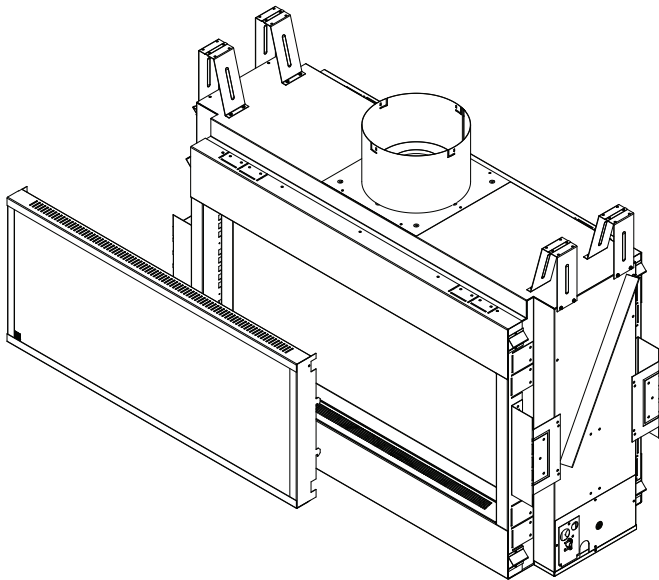
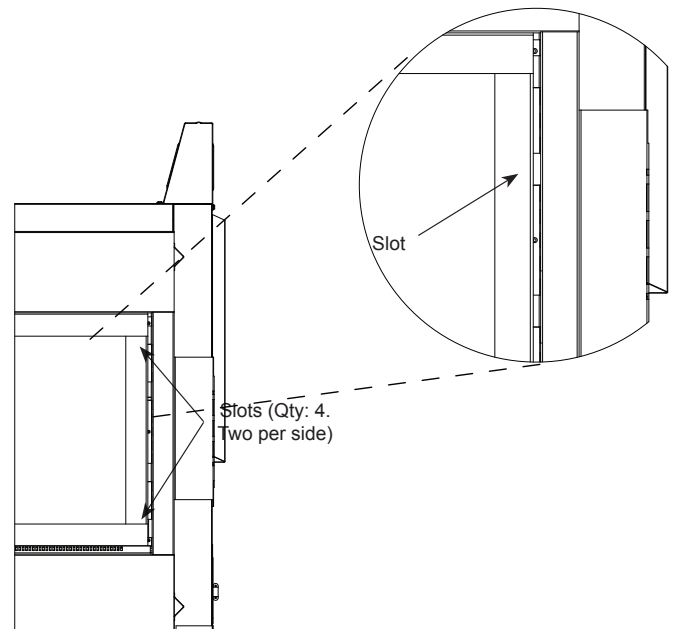

Figure 10.7 - Barrier Screen Install
Figure 10.8 - Screen Slot Placement
2. Align the four tabs on the sides of the screen frame (two top, two bottom) Figure 10.7 with the corresponding slots on the firebox. Figure 10.8